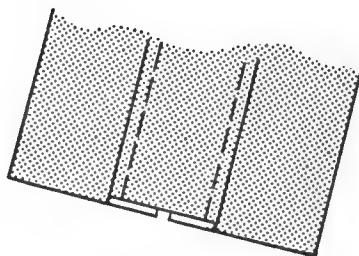

Fig. 279. A box pleat.
1. This pleat is formed by two pleats in opposite directions with the folded edges meeting on the underneath side of the pleat (Fig. 279).